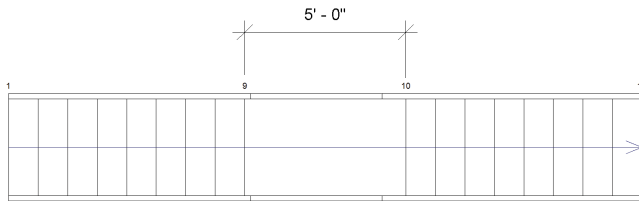

FIGURE 4.6 Component stair run with landing
- Click when you see the message 9 Risers Created, 9 Risers Remaining. This will complete the first run of the stair. Since you have not created enough risers to reach Level 2, you need to start another run. Move the cursor over to the right until the temporary dimension displays 5'-0" (1525 mm). Click again to start the next run, and click to the right when you see 9 Risers Created, 0 Risers Remaining (Figure 4.6).